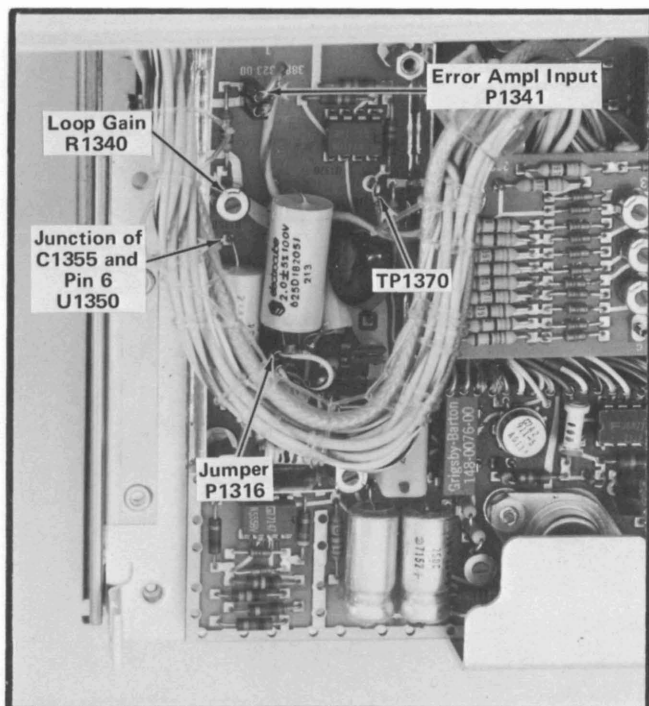

Fig. 4-4. Phase lock adjustments and TP.
a. Remove the cover on the phase lock circuit. Turn the Loop Gain R1350 adjustment (Fig. 4-4) fully CW. Pull off the jumper, harmonica connector P1316, (between pin 6 of U1350 and C1362, Fig. 4-4).
b. Establish 0 V reference for the vertical amplifier display, by grounding the probe tip and position the trace to the center of the graticule. Connect the probe to C1355 at the junction with pin 6 of U1350 (see Fig. 4-4).
g. Change the probe to TP1370 (Fig. 4-4). Replace the connector P1341 of W69 on its respective pins and change the vertical amplifier Volts/Div to 10 mV.